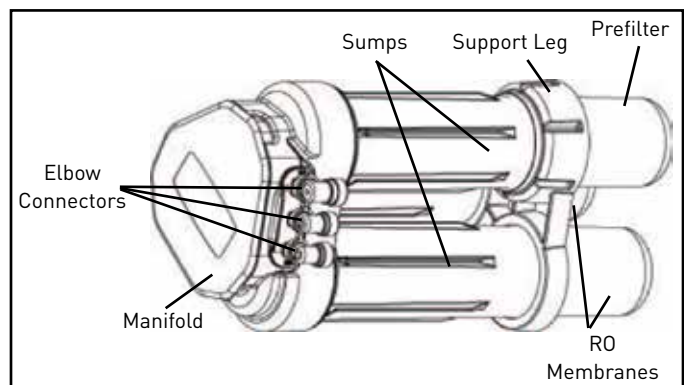

Figure 8 RO Assembly
The RO Assembly includes the following components: sumps (3), support leg, prefilter, RO membrane elements (2), and postfilter. The tubing is attached to the manifold by the elbow connectors. When choosing a location for the system, allow enough tubing for it to be moved for periodic servicing of the filters and membrane elements ("Figure 8 RO Assembly").